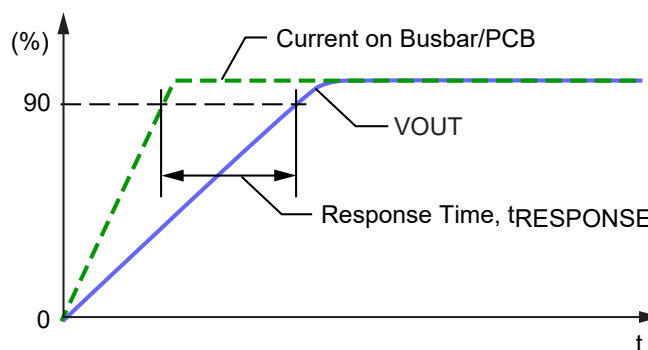

Figure 41: Response Time ( $t_{RESPONSE}$ )
**Response Time ( $t_{RESPONSE}$ ).** The time interval between a) when the sensed current reaches 90% of its final value, and b) when the sensor output reaches 90% of its full-scale value, as shown in Figure 41.